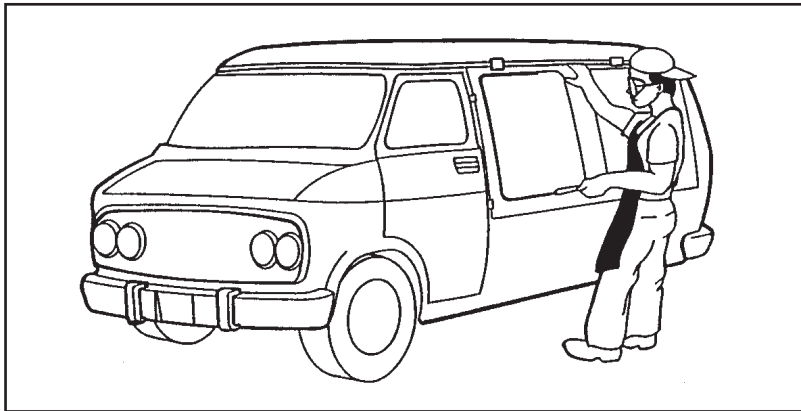

Figure 1
-  Use templates and fixtures when locating side windows. Use pre-existing features, such as the drip rail or body opening line, as reference points to locate templates and fixtures. (See Figures 1 and 2.)